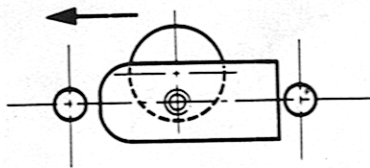

FIG 3
- 5 Position assembly such that skid plate pegs fit in 11mm locating holes in subframe and plate is in line with centre line of vehicle (as fig. 3).